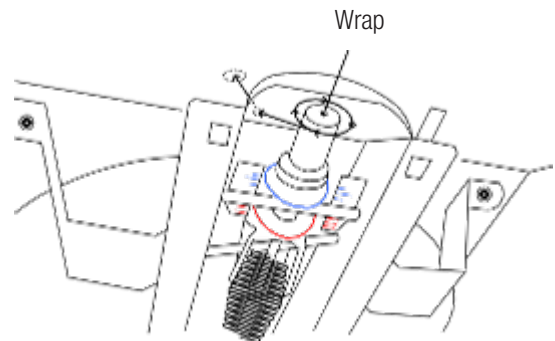

Fig. 4
10. Route the wires through the 1/4in hole in the scoop, through the 5/16in hole in the backpan and into the terminal box (see Figures 4 and 5).